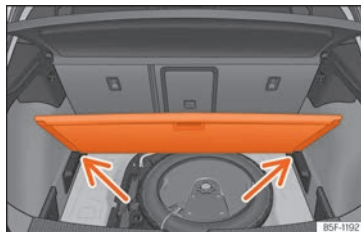

Fig. 131 Variable luggage compartment floor: inclined position.
- Rest the floor on its housings »» Fig. 131 (arrows).